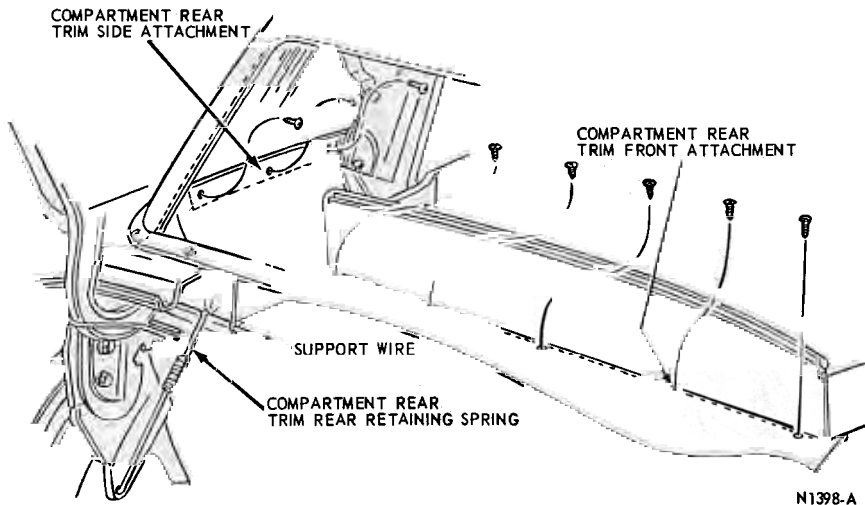

FIG. 12—Top Compartment Rear Trim Installation—Mustang
4. Remove the top compartment trim side and front attaching screws (Fig. 12).
5. Disengage the 2 retaining springs from the rear compartment trim support wire (Fig. 12).
30. Engage the compartment trim support wire to the luggage compartment door hinge bracket springs (Fig. 12).
31. Install the compartment trim to the belt side front tacking strip with the attaching screws (Fig. 12).
32. Install the compartment trim with the seat back support lower ledge attaching screws (Fig. 12).